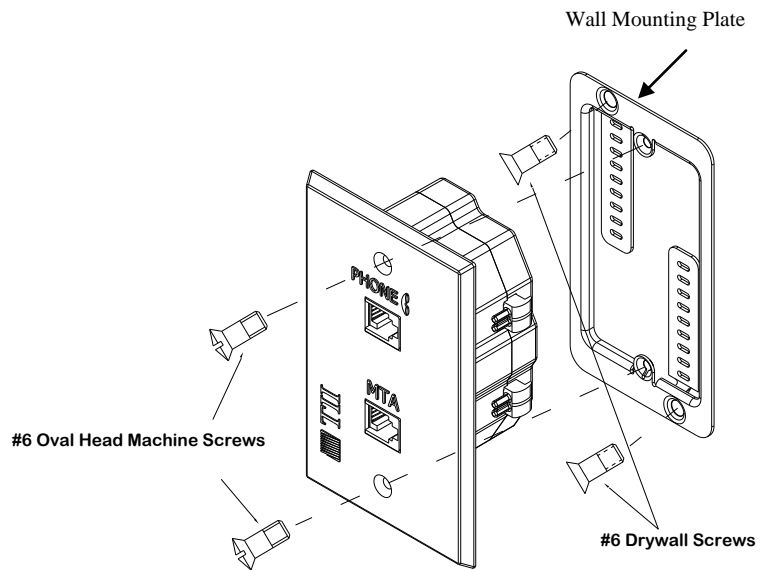

Figure 3
3.9.2 After drywall has been cut, install the wall mounting plate. Bend the two mounting tabs behind the drywall and secure the mounting plate with the supplied drywall screws (See Figure 3). Align the mounting tab slots while tightening the screws.
3.9.3 Dress the wires properly inside the wall mounting plate and secure the SVWJ to the junction box using the supplied #6 oval head screw's (See Figure 3).